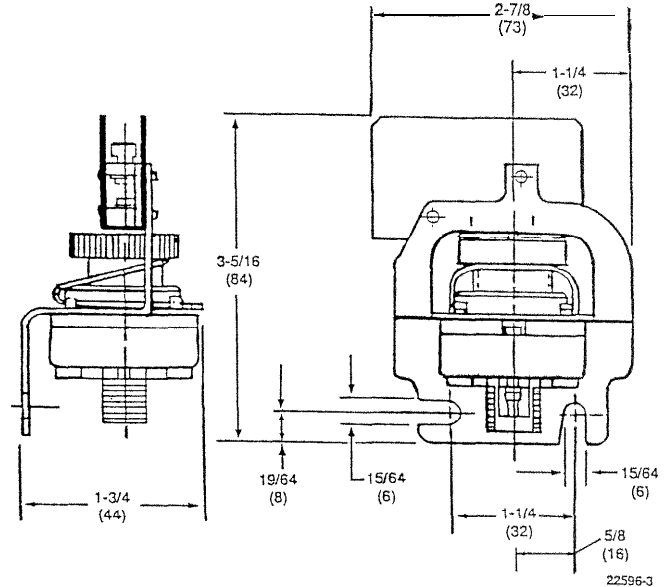

Fig. 3. P658E Switch Approximate Mounting Dimensions in Inches (Millimeters).
3. Mount P658E using two No. 8 screws through 90-degree mounting slots on 1-1/4 in. (32 mm) centers (Fig. 3).